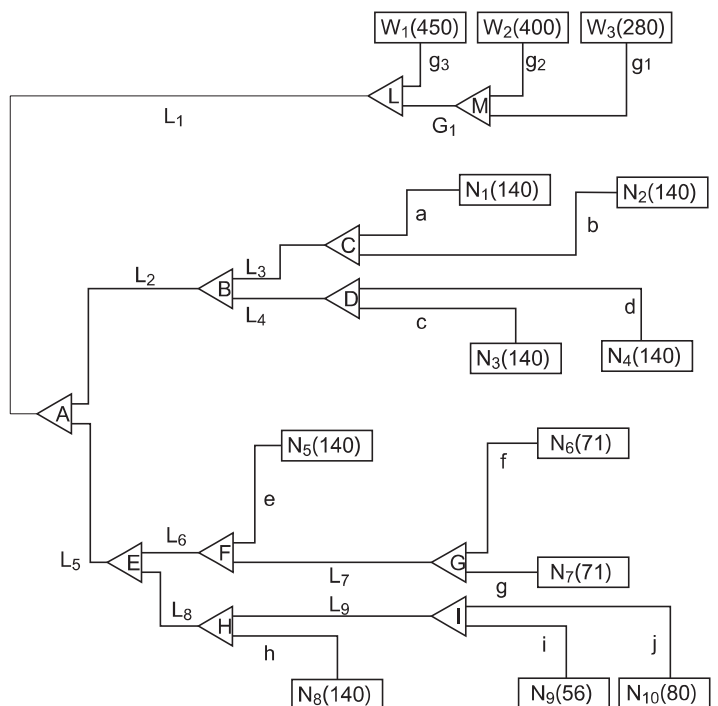

Fig.4.3 Tube classification
2) E.g.: The capacity of downstream indoor units after L2 in Fig.4.3 is 140×4=560, so the gas tube and liquid tube of L2 are respectively: Φ 31.8 and Φ 15.9.
The total capacity of upstream outdoor units before the main tube L1 in Fig.4.3 is 10+14+16=40HP, referring to Tab.4.5 it is known the gas tube/ liquid tube=Φ41.2/Φ22.2 while the total capacity of downstream units is 140×6+56+71×2+80=1118, referring to Tab.4.3 it is known the gas tube/ liquid tube=Φ38.1/Φ19.1, so according to the principle for selecting the larger one, the main tube specification is finally fixed in Φ41.2/Φ22.2.